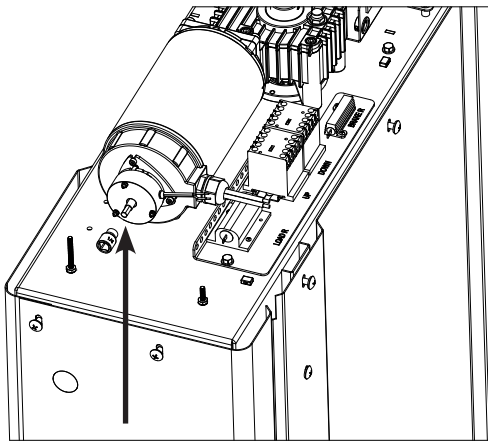

Figure 3-5
3. Use the provided $\frac{1}{4}$ " socket with a $\frac{3}{8}$ " ratchet or a cordless drill. Power the drill in the forward direction - rotating clockwise to lower the platform. An extension may be required. *See Figure 3-5.*